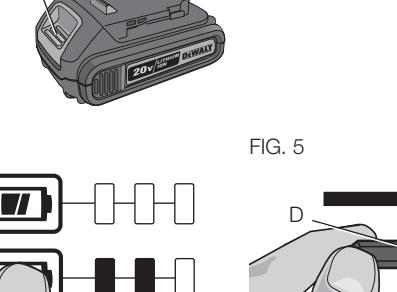

FIG. 3
### Charging Procedure (Fig. 3)
- Insert the battery pack (F) into the charger, as shown in Figure 3, making sure the pack is fully seated in charger. The red (charging) light will blink continuously, indicating that the charging process has started.